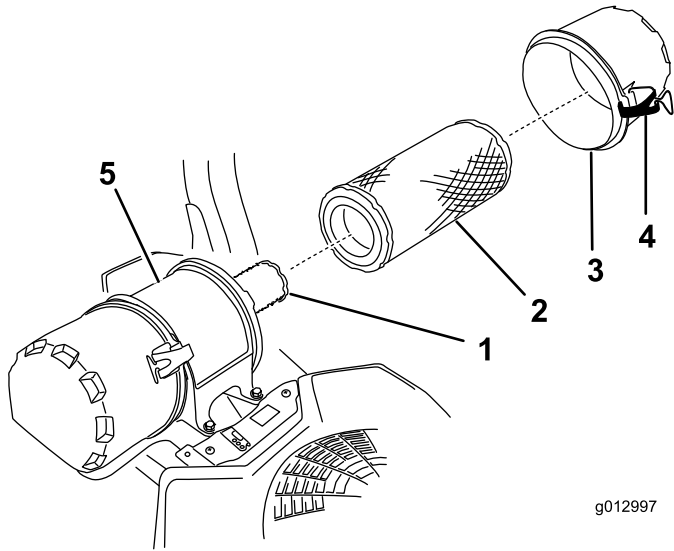

Figure 45
6. Release the latches on the air cleaner and pull the air cleaner cover off the air cleaner body (Figure 45).
8. Gently slide the primary filter out of the air cleaner body (Figure 45).
- If the inner filter is being replaced, carefully slide it into the filter body (Figure 45).
- Carefully slide the primary filter over the inner filter (Figure 45).
- Install the air cleaner cover and secure the latches (Figure 45).